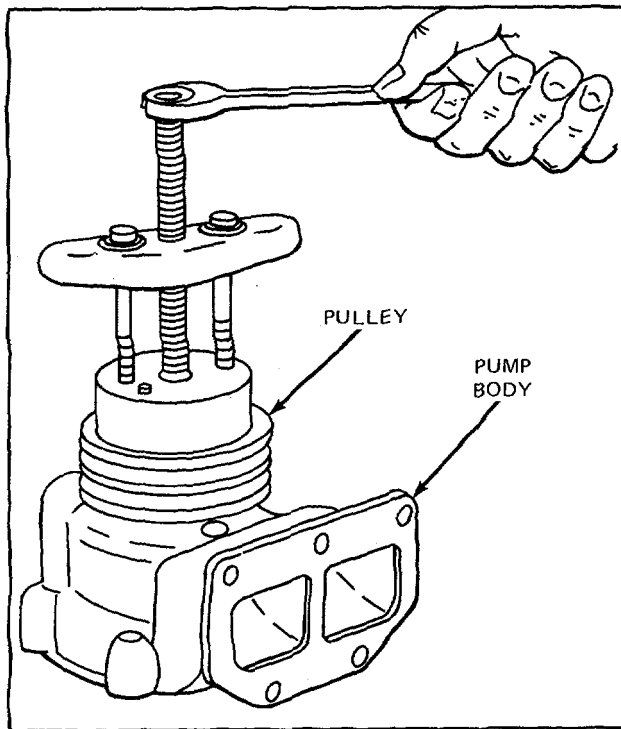

Figure 3. Removing Pulley
1. Note the position of the pulley on the shaft so that the pulley can be reinstalled in the same position when the pump is reassembled. Remove the water pump pulley as shown in Fig. 3.